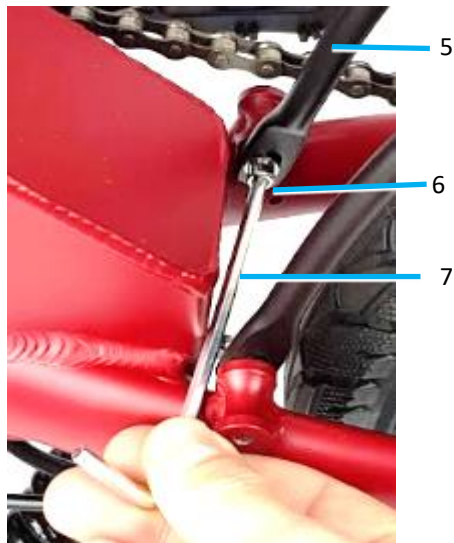

Figure R3: Installation of front arms (5) using an Allan key (7).
- Attach the **left rear arm (2)** using a washer and **bolt (1)**.
- Attach the **right rear arm (3)** using a washer and **bolt (4)**.
- To attach the **front arms (5)** use a washer and **bolt (6)** and an **Allan key (7)**. It takes some patience to install the **bolts (6)** as it is a bit tricky to reach. Don't use force to avoid damaging the frame. Make sure the **bolts (6)** are straight, at a 90 degree angle to the frame. Use the **Allan key (7)** at a flat angle as shown in figures R3 and R4. I